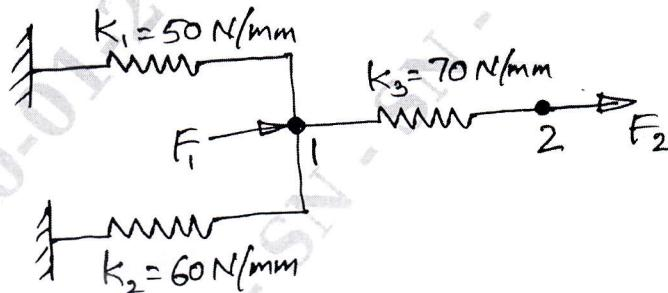

Fig.Q.1(b)
b. State the principle of minimum potential energy. Using principle of minimum potential energy, determine the nodal displacements for the spring system shown in the Fig.Q.1(b). Take  $F_1 = 75 \text{ N}$  and  $F_2 = 100 \text{ N}$ . (12 Marks)